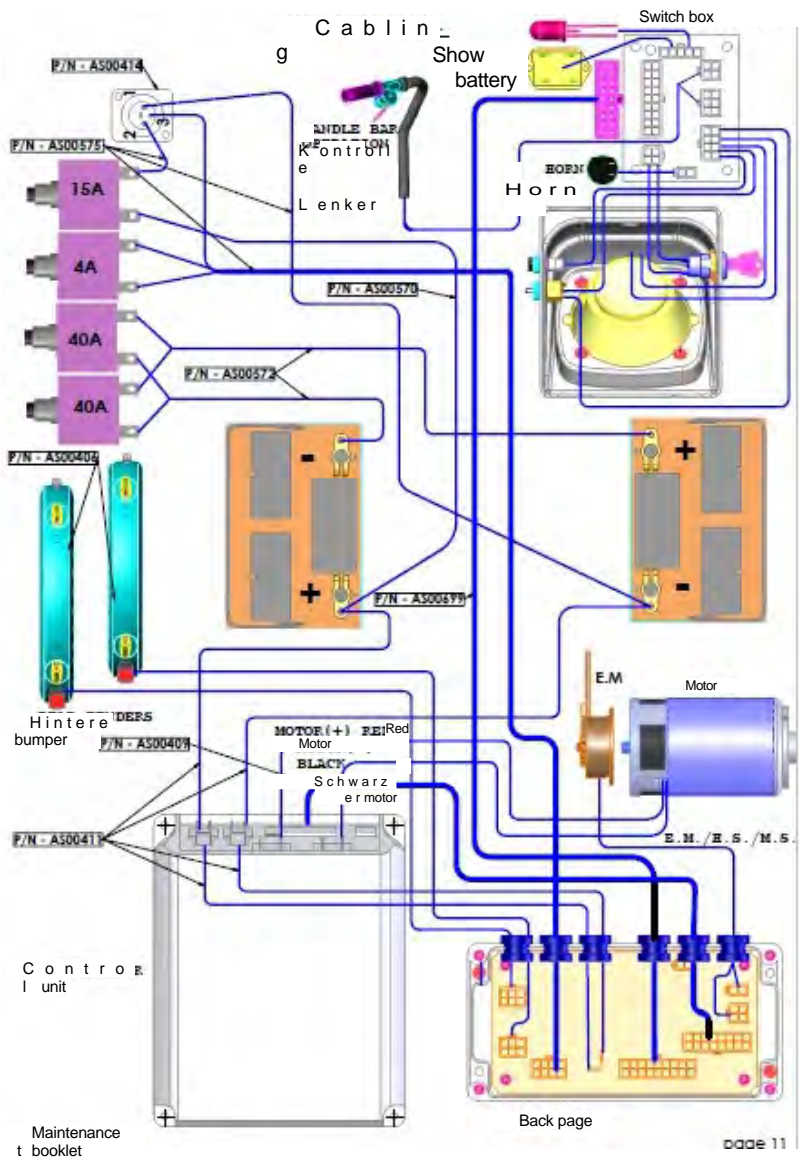

Figure 11
2. The figures in brackets refer to the parts shown in Figure 11.
Replace batteries	Caution! Batteries should only be replaced by qualified personnel. Warning! Batteries contain a high energy source and can generate sparks that pose a fire hazard. Warning! Improper handling of batteries can lead to damage and injury. The procedure is shown in Figure 12. 1. Remove the insulating cap from one of the battery terminals. 2. Unscrew the cable from the terminal using a 10/13 mm wrench. Make sure that the wrench does not touch any other terminals or metal parts to avoid the risk of damage or injury. 3. Repeat steps 1 and 2 for all other terminals. 4. Remove the old batteries and insert the new ones. 5. Connect the cables of the new batteries as shown in Figure 11 (and on the label attached next to the batteries). 6. Screw the terminals tight and replace the insulating caps.